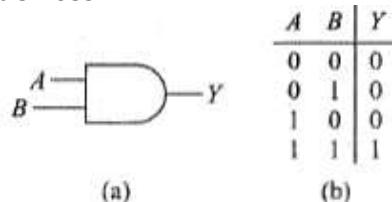

Figure 2.10: (a)Truth Table (b)2-Input AND Gate Symbol
- It is a gate with 2 or more inputs (Figure 2.10).